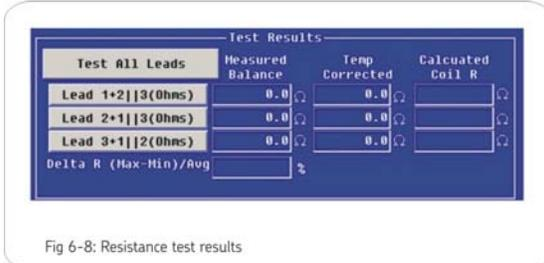

Fig 6-8: Resistance test results
Regardless of how the resistance measurements were acquired, once the measurements are obtained, the AWA software will calculate the temperature corrected resistances and display them as shown in Fig 6-8. Additionally, if possible, the AWA will calculate the individual coil resistances. If not, the AWA software will display a message indicating a solution to the coil resistance that could not be found.
- 1) Press the **Test All Leads** button shown in Fig 6-8. The AWA will then measure each lead's resistance sequentially.
- 2) Press on of the **Lead** radio buttons also shown on Fig 6-8. The AWA will measure the resistance of that lead only and display the results.